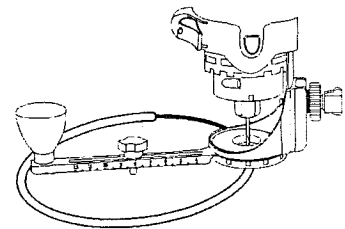

Fig. 14
6. When the motor is up to full speed, slowly tip the and circle cutter assembly to an upright position, letting the bit cut into the workpiece (see Fig. 14, careful to keep the pivot point located at the center of the circle to be cut. Once the tool has reached the upright position and the bit has cut through the workpiece, slowly move the tool in a **clockwise** direction using slow steady pressure to make the cut. Continue to cut the circle, keeping the tool upright, rotating around the circle cutter pivot point.